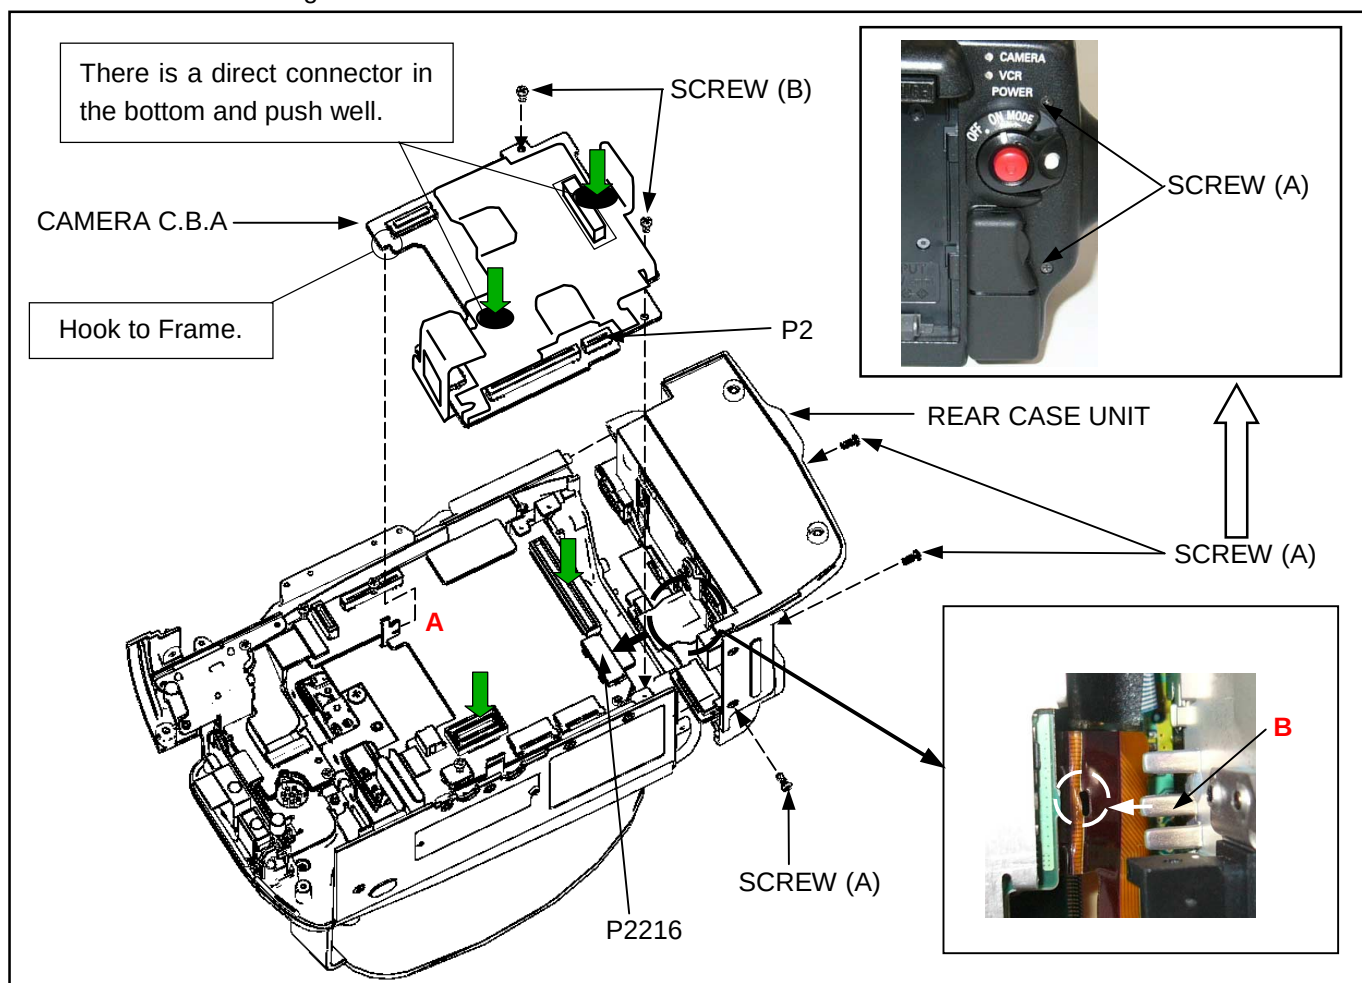

Figure 9-1
7. Remove the 3 screws (A) as shown in figure 9-1.
8. Disconnect a connector P2 on CAMERA C.B.A. as shown in figure 9-1.
9. Unscrew the 2 screws (B) on CAMERA C.B.A. as shown in figure 9-1.
10. It shifts the Rear Case Unit as much as showing in figure 9-1 and remove the CAMERA C.B.A.. Be careful because the VTR C.B.A.(bottom side of CAMERA C.B.A.) and the connector in the CAMERA C.B.A are combined.
1. When installing the CAMERA C.B.A., Attach the CAMERA C.B.A. to portion "A" of Mech. Attachment Frame as shown in figure 9-1.
2. When installing the CAMERA C.B.A., the parts which are shown in figure 9-1 on the CAMERA C.B.A. are combined with the VTR C.B.A. with the direct connector, pushing CAMERA C.B.A. well.
3. When installing the Rear Case Unit, it puts section "B" in the hole of flexible cable, which is connected in P2216 as shown in figure 9-1.